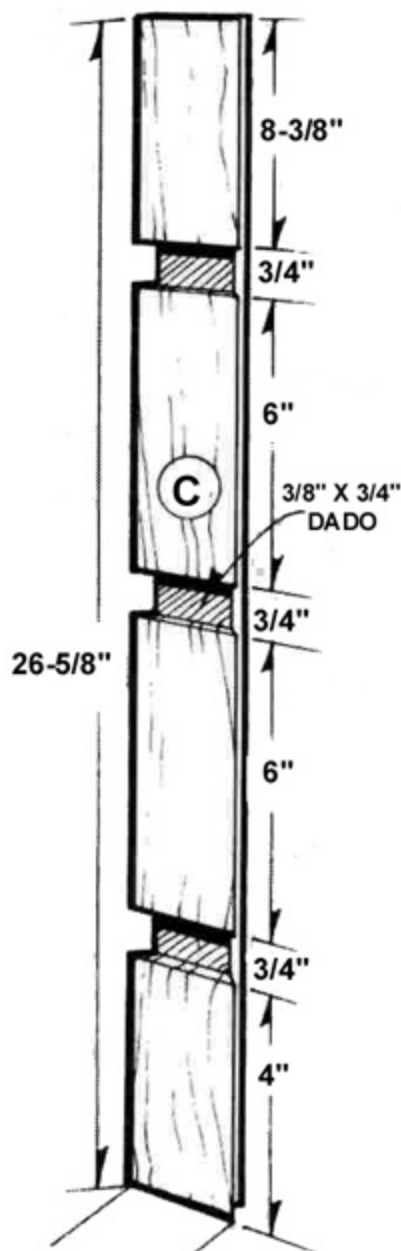
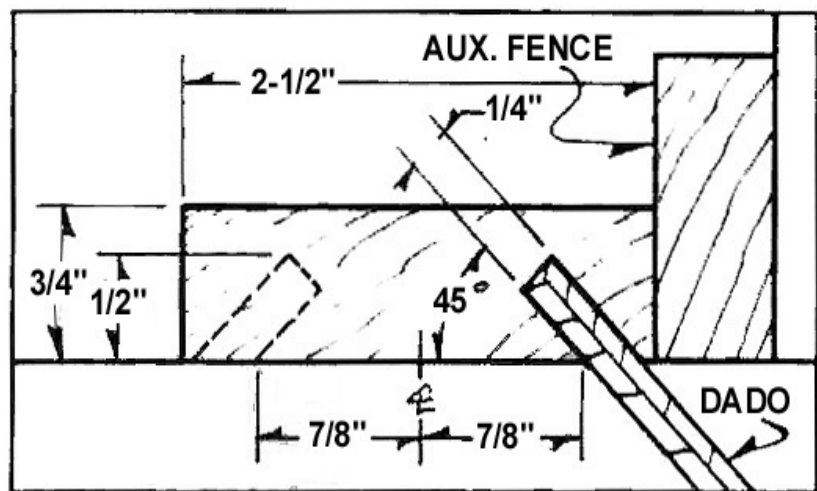

Figure 3: Back Support (C)
Figure 4: Making the 1/2" Cut in the Back Support (C)
1. Cut the back support (C) according to the specified dimensions.
2. Mark the back support (C) according to the dado layout in **Figure 3**.
4. Reset the dado-head to equal the thickness of the back pieces (B).
6. Make the 1/2" cut to accept the back pieces (B) (see **Figure 4**).